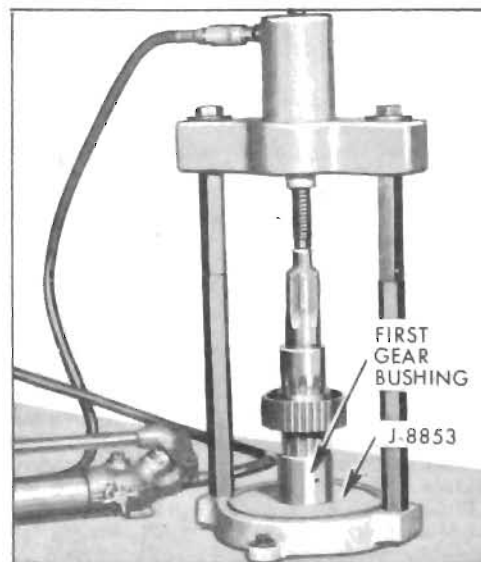

Figure 4-55—Installing First Speed
1. From rear of mainshaft, assemble first and second speed clutch assembly to mainshaft (sliding clutch sleeve taper toward the rear, hub to the front) and, using J-8853, press the first gear bushing on shaft. See Figure 4-55.